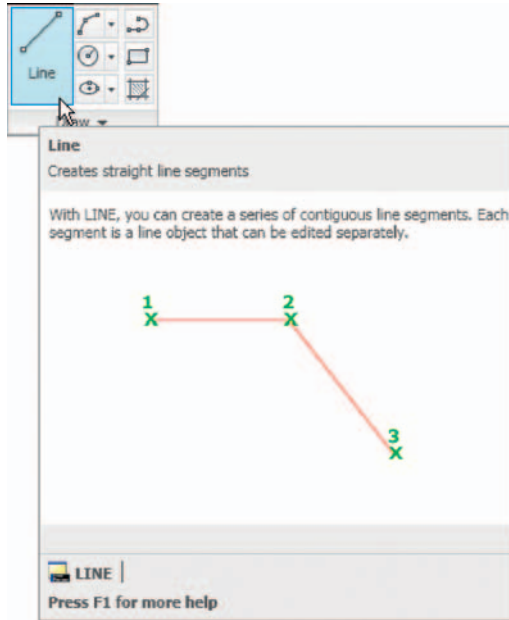
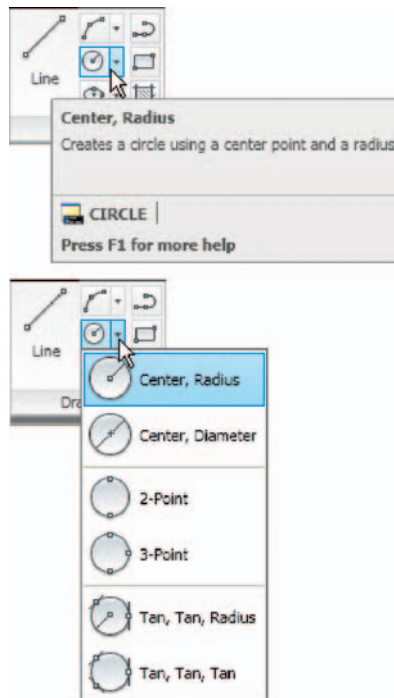

Fig. 1.7 The descriptive tooltip appearing with a *click* on the **Line** tool icon
Fig. 1.8 The tooltip for the **Circle** tool and its popup menu
**Tool panels**: Each shows tools appropriate to the panel. Taking the **Home/Draw** panel as an example, Fig. 1.7 shows that placing the mouse cursor on one of the tool icons in a panel brings a tooltip on screen showing details of how the tool can be used. Two types of tooltip will be seen. In the majority of future illustrations of tooltips, the smaller version will be shown. Other tools have popup menus appearing with a *click*. In the example given in Fig. 1.8, a *click* on the **Circle** tool icon will show a tooltip. A *click* on the arrow to the right of the tool icon brings a popup menu showing the construction method options available for the tool.